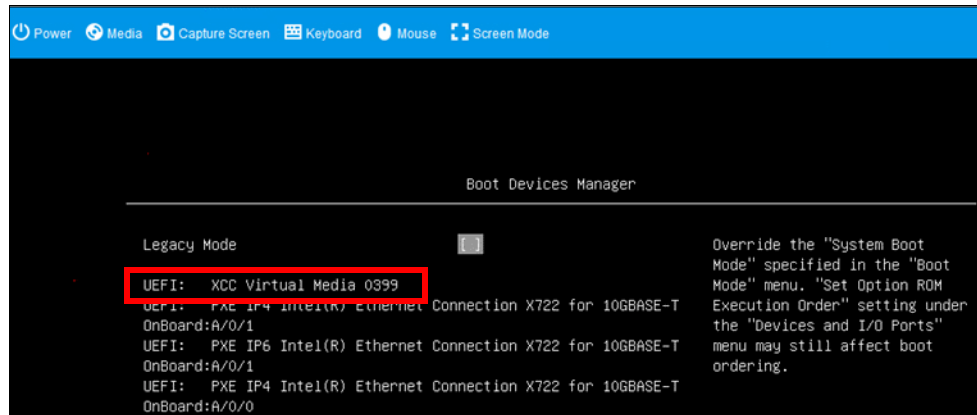

Figure 6-53 Boot device manager
7. In the **Boot Devices Manager** screen, select **UEFI: XCC Virtual Media 0399**, as shown in Figure 6-53 on page 213.